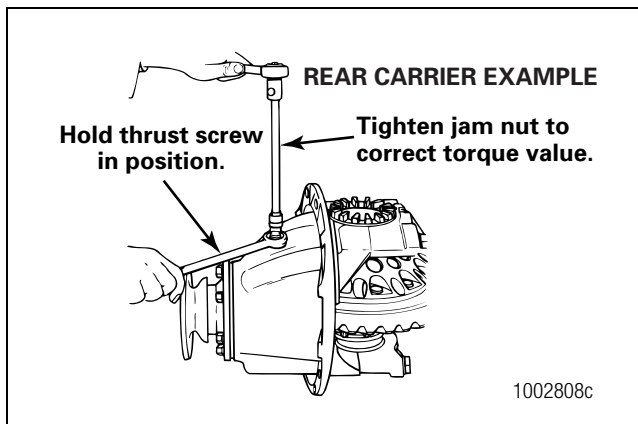

Figure 5.76
- Tighten the jam nut, if equipped, to the correct torque value against the carrier. Refer to Section 8. Figure 5.76.